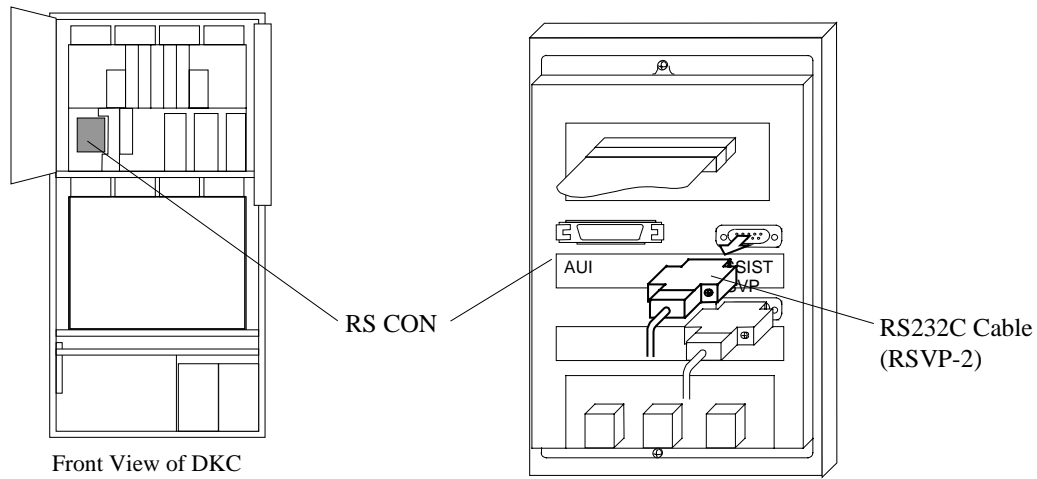

Fig. T7.1-8 Disconnect of RS232C Cable
- a. Disconnect the RS232C cable (RSVP-2) from the RS CON PCB. (See Fig. T7.1-8 [REP03-510].)